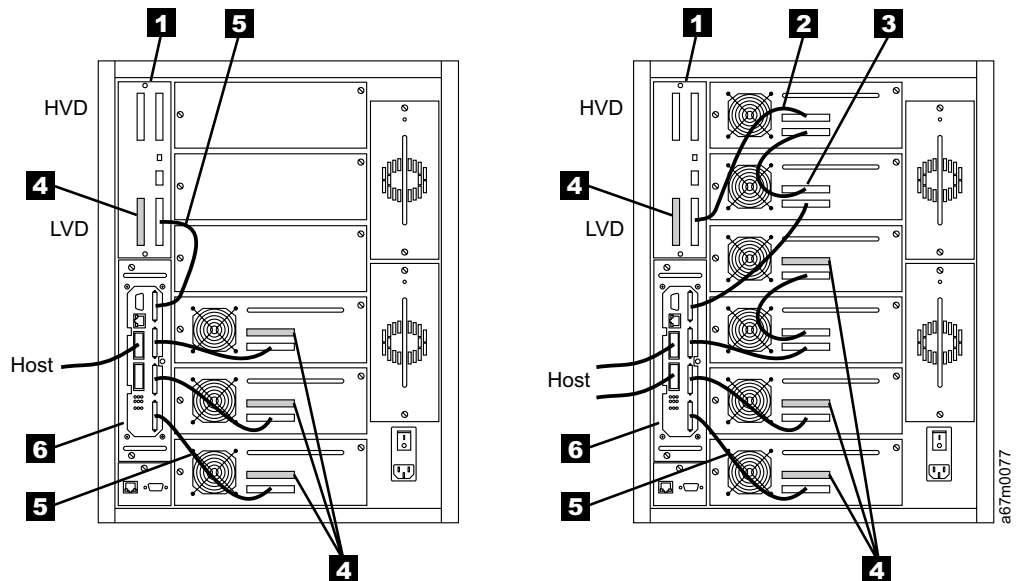

Figure 36. Examples of fiber and SCSI cable connections
Attach the fiber cable from the host (server) to the GBIC of one of the Fibre Channel connectors on the gateway ( **6** in Figure 36 on page 51).
Because the SCSI ports on the gateway are LVD/SE, only LVD/SE drives and the LVD/SE connections on the library SCSI host interface board (see **1** in Figure 36) can be used.
1. Attach the cables **5** from the drives to the SCSI ports of the gateway **6**. Four 0.6-m VHDCI-to-HD68 SCSI cables are provided with each library. If more than four drives are installed in the library, the drives may need to be daisy-chained by using HD68-to-HD68 cables **3**. See Figure 36 for examples of configurations (your library configuration may not be shown).